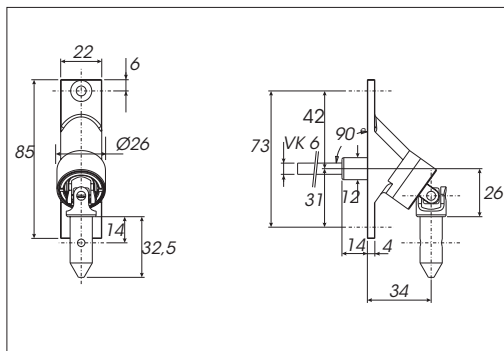

Fig. 10a : Cardan joint 90°
- See Figure 10a + 10b for the cardan joint sizes.